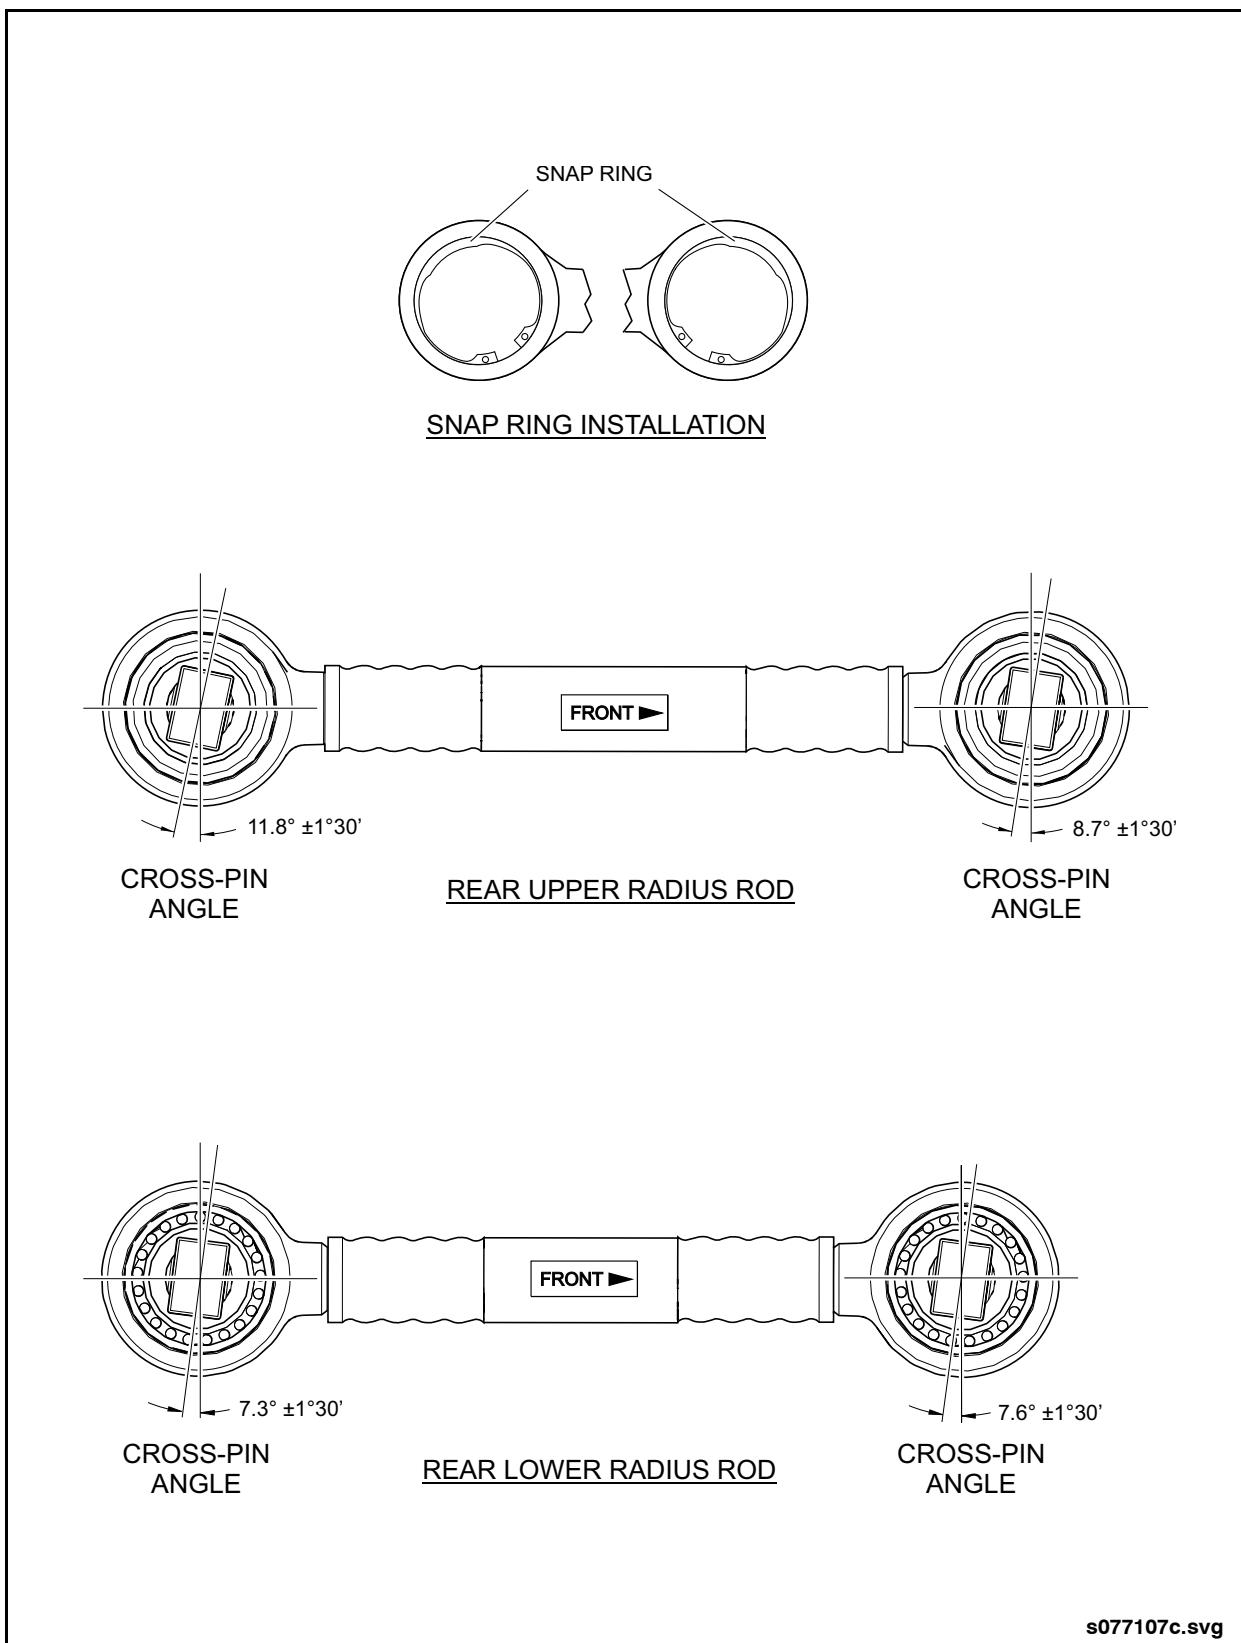

Fig. 2-106: Rear Radius Rod Bushing Replacement
9. Insert bushing into bore of radius rod so that the cross-pin angle is properly aligned. See "Fig. 2-106: Rear Radius Rod Bushing Replacement" on page 85.
The upper and lower radius rods have directional stamps marked "FRONT" on the tubular section of the rod to indicate which end is to be installed towards the front of the vehicle. If the stamp is illegible, locate the cross-pin with the greater angle at the axle end. See "Fig. 2-106: Rear Radius Rod Bushing Replacement" on page 85.